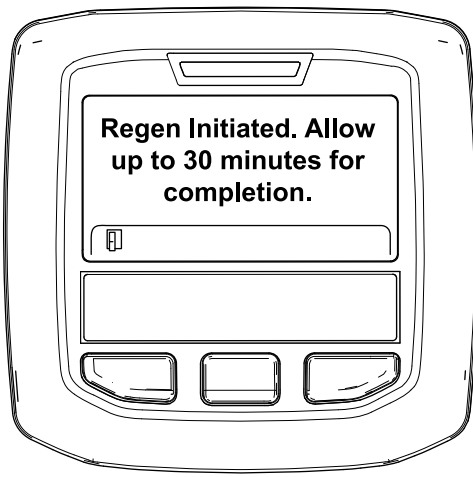

Figure 37
- If the regeneration is allowed, the "Regen Initiated. Allow up to 30 minutes for completion" message displays in the InfoCenter, wait for the machine to complete the parked regeneration process (Figure 37).